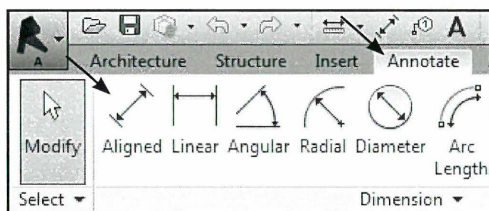

Fig. 06.03. Annotate - Aligned.
- Klik *Annotate - Aligned* (Fig. 06.03).